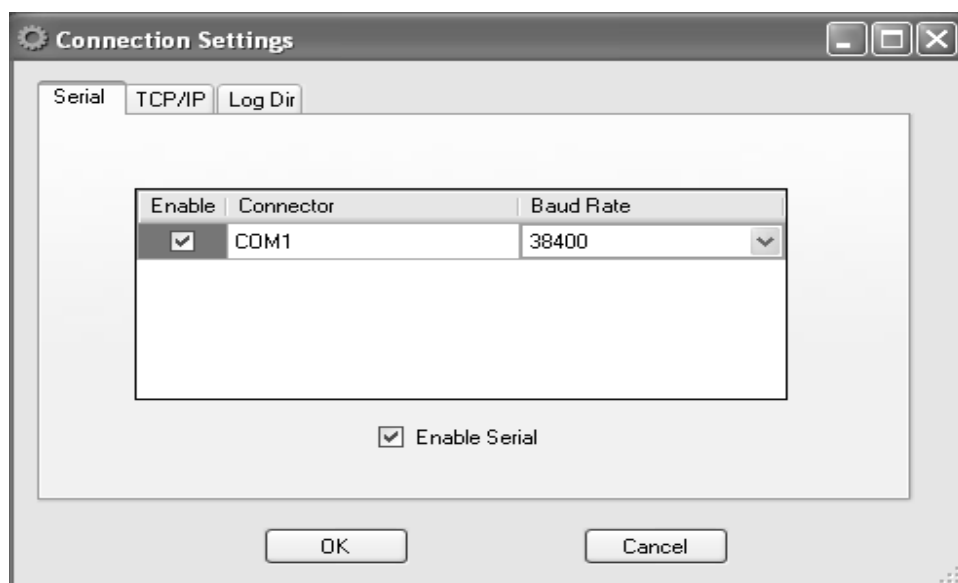

Fig. 2-13. Screenshot of ‘Serial’ selection in the Connection Settings dialog box
4. Click the ‘Main’ menu of the UGA software, and select ‘Connection Settings’. The following dialog box will appear as shown in Fig. 2-13.